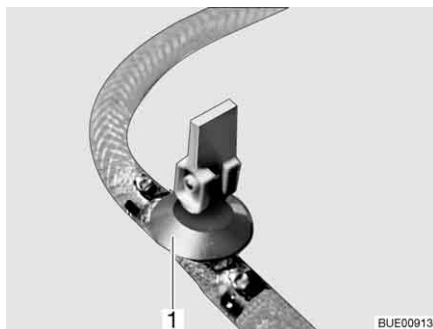
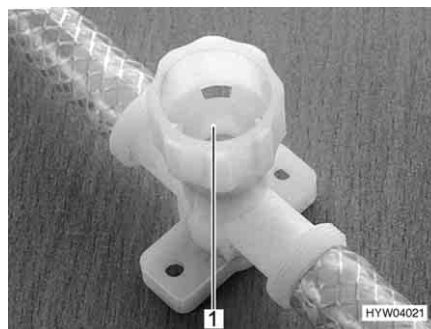

Fig. 206 Drain cock (with rocking lever)
Fig. 207 Drain cock (with twist cap)
- Close all drain cocks. To do this, position the drain cock's rocking lever (Fig. 206,1) horizontally or turn the drain cock's cap (Fig. 207,1) in a clockwise direction.